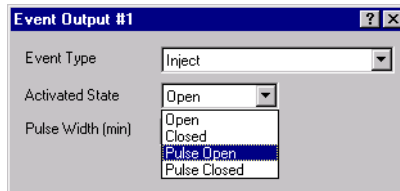

Figure 3-12 Selecting the Activated State of an Event Output
- c. Select an activated state from the Activated State list (Figure 3-12).